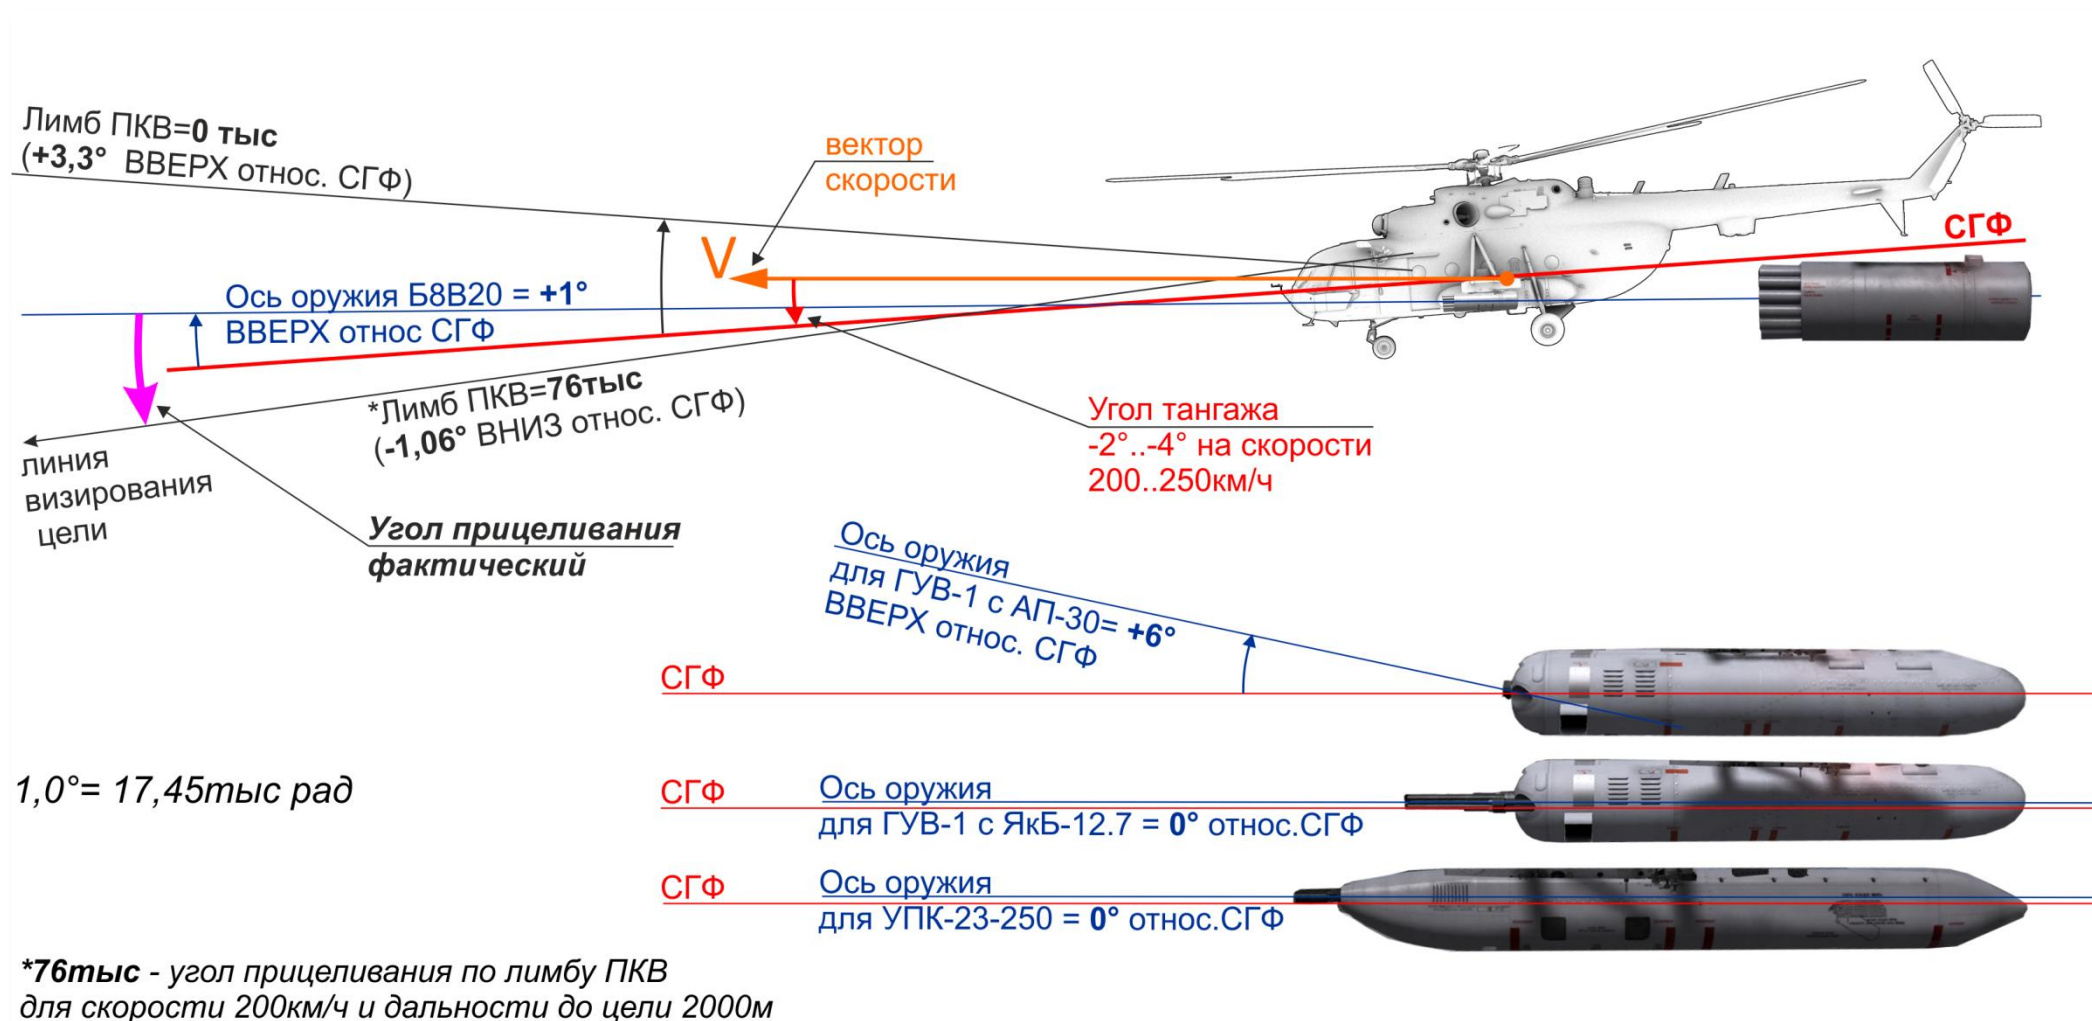

Рис. 9.130. Elevation angles relevant to weapons employment using the PKV collimating sight.
The sight elevation angle is determined by projectile gravity fall, helicopter pitch angle, and particular weapon system's installed elevation angle relative to the helicopter water line (WL). As such, the sight elevation angle is the angle between the projectile throw elevation and the line of sight to the target (Рис. 9.130).